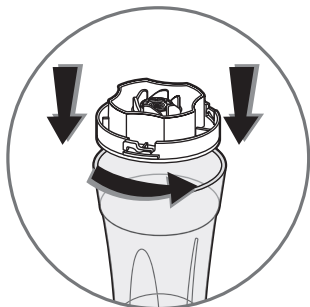

fig.4
2. Fit the chopper or grinder blade unit (H2 or I2) onto the chopper or grinder lid (H1 or I1). Lock the blade unit by turning it clockwise (Fig. 4).